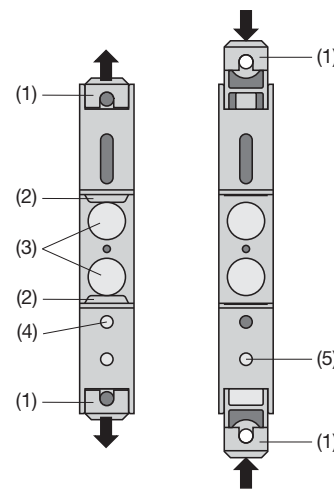

Fig. 6. Rear of device.
While pressing the latch (4) in the base of the device (Fig. 6, left) pull out the transmitter securing brackets (1). To return the brackets to their original positions, the latch (5) in the base of the device has to be depressed before applying pressure to the securing brackets (1) (see Fig. 6, right).